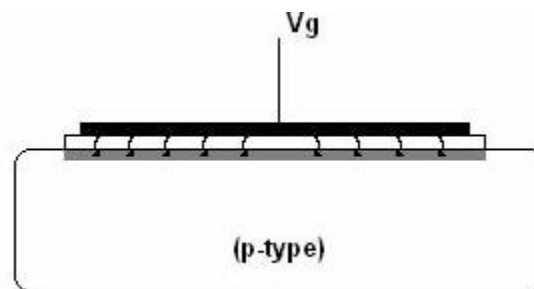

Fig 4.2a: Accumulation mode (grey layer - strong hole concentration)
1. **Accumulation:** In this mode, there is accumulation of holes (assuming n-MOSFET) at the Si-SiO2 interface. All the field lines emanating from the gate terminate on this layer giving an effective dielectric thickness as the oxide thickness (shown in Fig. 4.2a). In this mode,  $V_g < 0$